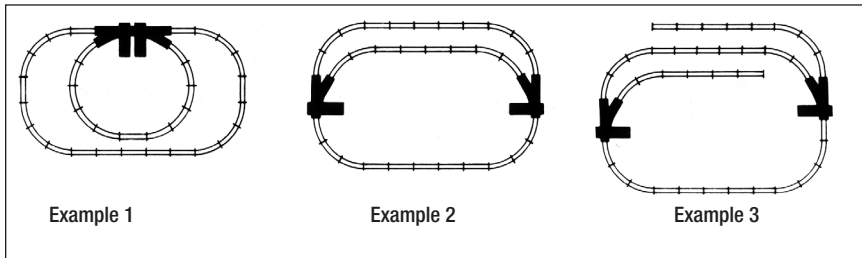

Figure 1. Layout examples
**W**ith the addition of track switches, you can vary the route taken by your trains. For example, you can maneuver your train into a different loop or divert it to a siding. See Figure 1 for examples.
Keep in mind that most layouts use right- and left-hand switches together so that the trains can get back to the mainline without backing up. Refer to the first two layouts shown in Figure 1.